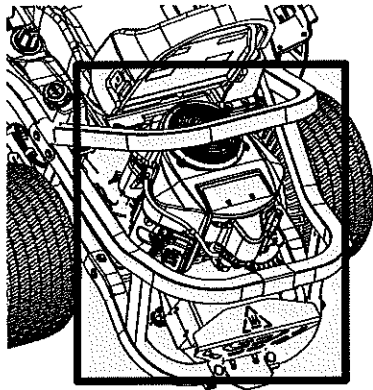

Figure 30
- Keep both sides of transmission cooling slots, exhaust manifold, around fuses, all wiring and harnesses, muffler pipe, muffler shield, engine intake screens and cooling fins, etc. clear of grass clippings and leaves. See Figure 30.